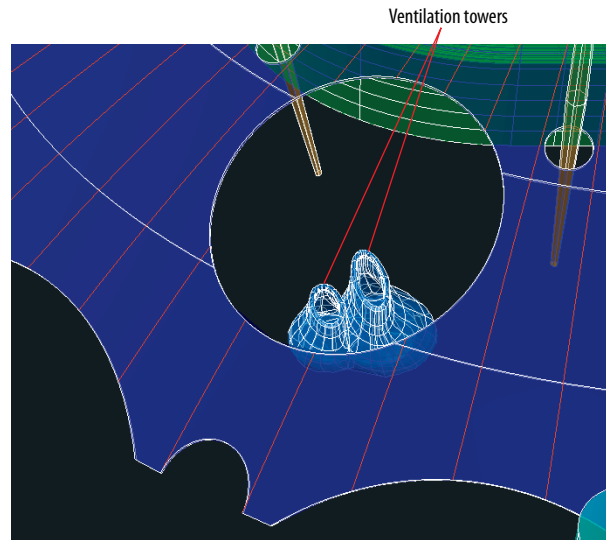

FIGURE 16.13 Using the ViewCube to view the ventilation towers
1. Click the ViewCube's edge between the Top and Front faces, and zoom into the ventilation towers, as shown in Figure 16.13.